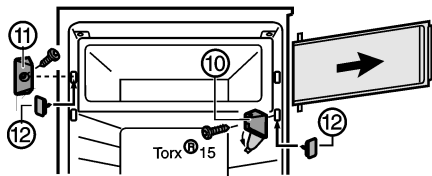

Fig. 6 *
- ▶ Fold away the cover of the turn hinge Fig. 6 (10)*
- ▶ Unscrew turn hinge Fig. 6 (10) together with compartment door.*
- ▶ Unscrew closing element Fig. 6 (11)*
- ▶ Close the vacated holes using the accompanying cover Fig. 6 (12)*.